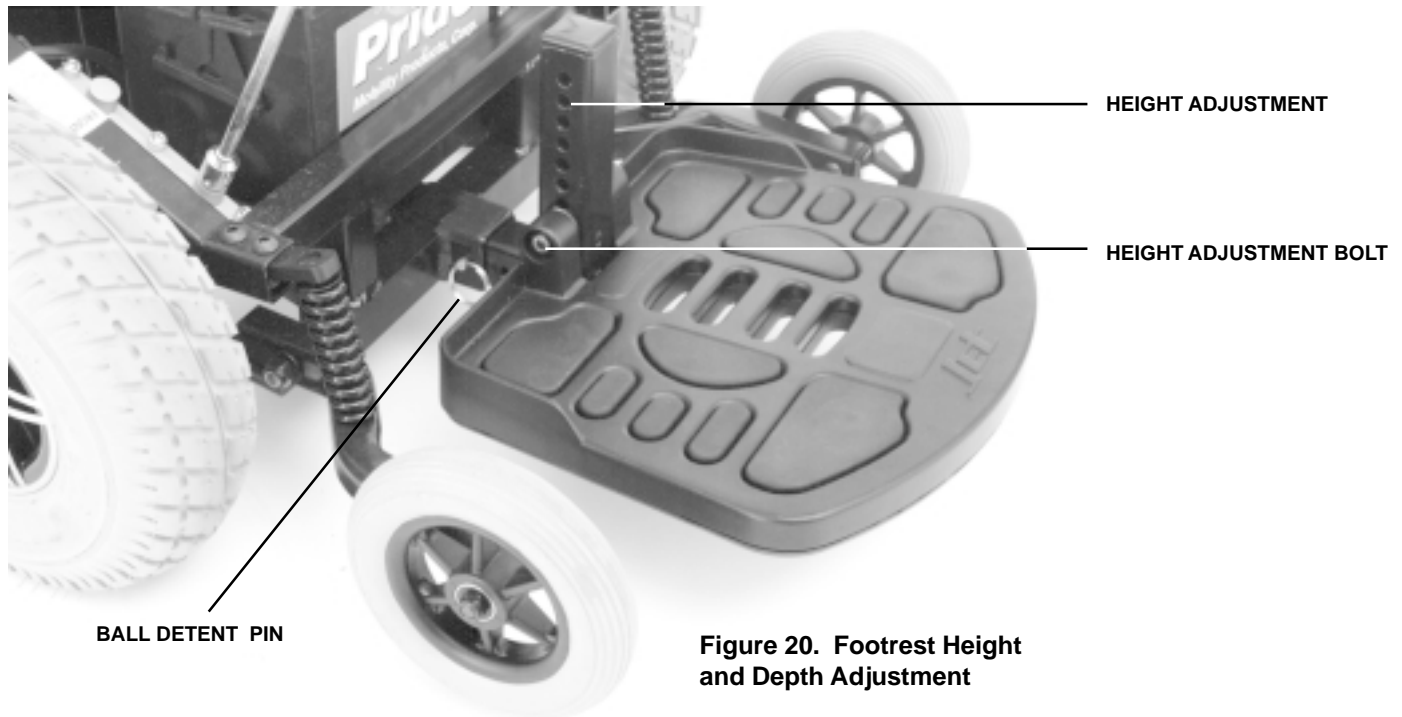

Figure 20. Footrest Height and Depth Adjustment
The footrest height is easily adjusted to any one of six different heights. See figure 20.
1. Remove the height adjustment bolt from the footrest using a 6-mm hex key and 13-mm socket. See figure 20.
The Jet 3 uses a ball detent pin to fasten the footrest to the power base. See figure 20.